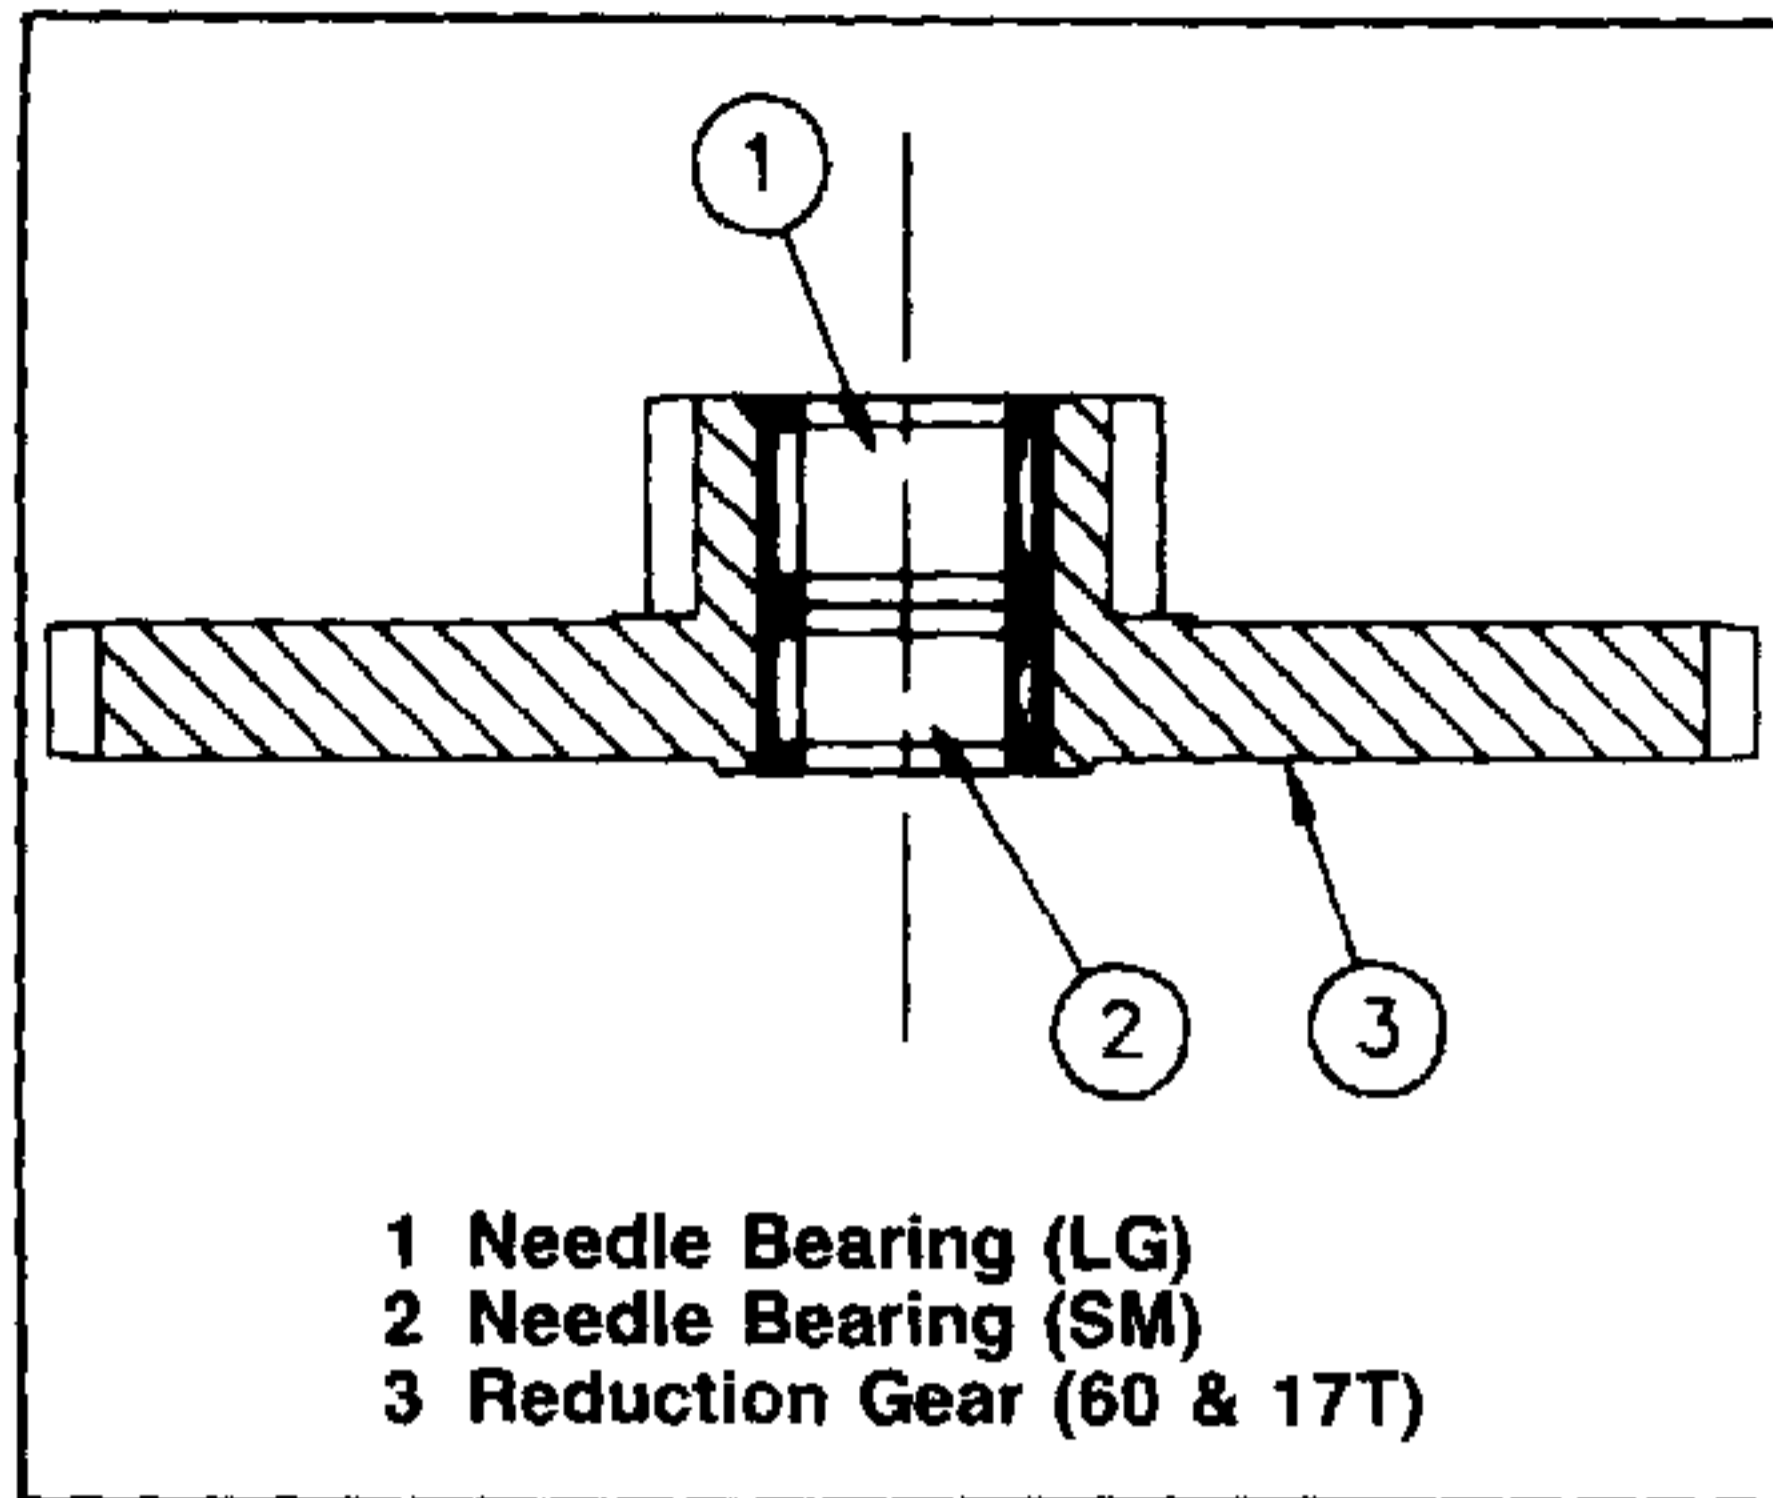

FIGURE 11.
5.24 Note: There are (2) different length bearings in the reduction gear. These bearings must be reinstalled in the same order as disassembly. Figure 11.